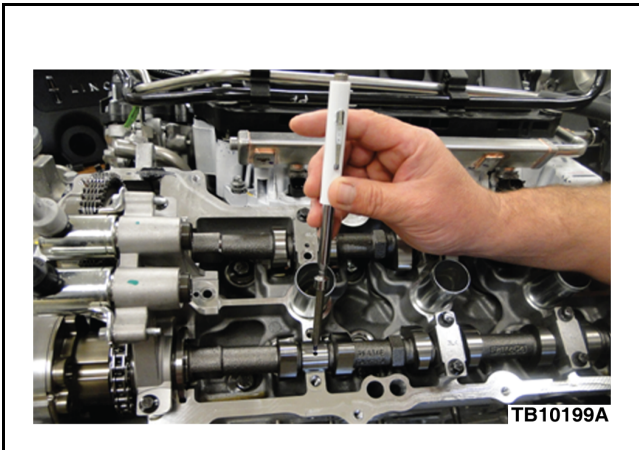

Figure 3 - Article 12-1-17
6. Using the tool provided in the service kit, install the appropriate color cup plug into the oil feed hole in camshaft journal 2L. A pen magnet may be used on the opposite side of the tool to hold the plug to the tool and position in the hole. (Figure 3)